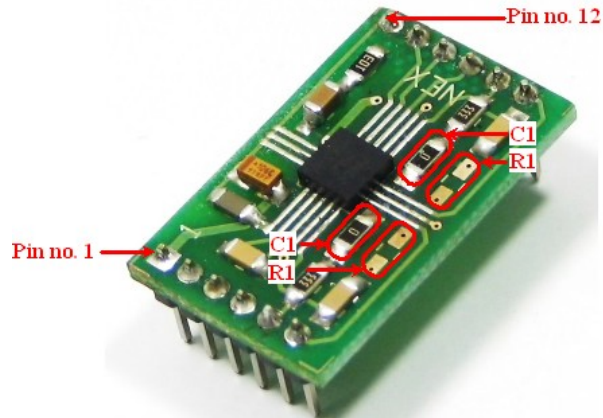

Figure 1: Pin Configuration
0.1µF and 10µF power supply decoupling capacitors placed near the supply pins. The board allows band limiting of the output rate response through the use of an external low pass and high pass filter. It is always recommended to have low pass filter. On the board low pass filter consisting of R2 and C2 is present. High pass filter is generally not required but if it is required for some specific application, empty pads for R1 and C1 are provided. In the default condition C1 is replaced by 0 ohm resistance. Use R1206 package SMD components for the high pass filter. Refer to Figure 1 for location of the R1 and C1.